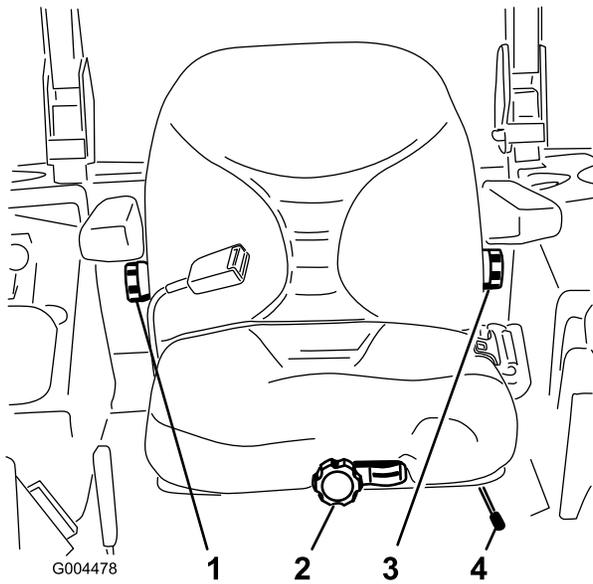

Figure 15
1. To adjust the seat, move the lever sideways to unlock the seat (Figure 15).
Without sitting on the seat, turn the knob in front of either direction to provide the best comfort (Figure 15).
To adjust the back of the seat, turn the knob, located under the right-side armrest, in either direction to provide the best comfort (Figure 15).
To adjust the back of the seat, turn the knob, under the left-side armrest, in either direction to provide the best comfort (Figure 15).